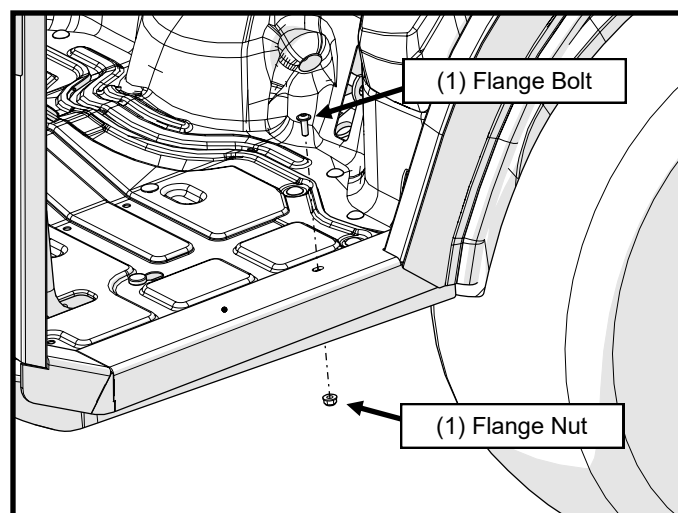

Figure 30: Secure Side frame to Floorboard
30. Secure the cab floorboards to the tractor floorboard with 1/4-20 x 3/4" Flange Bolts and 1/4-20 Flange Nuts, one set on each side of tractor. See Figure 30.